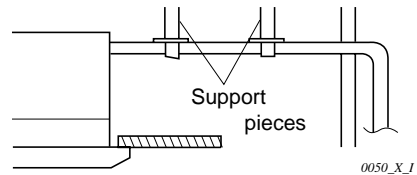

Fig. 3-31
- Do not apply force to the piping on the unit side when connecting the drain pipe. The pipe should not be allowed to hang unsupported from its connection to the unit. Fasten the pipe to a wall, frame or other support as close to the unit as possible. (Fig. 3-31)